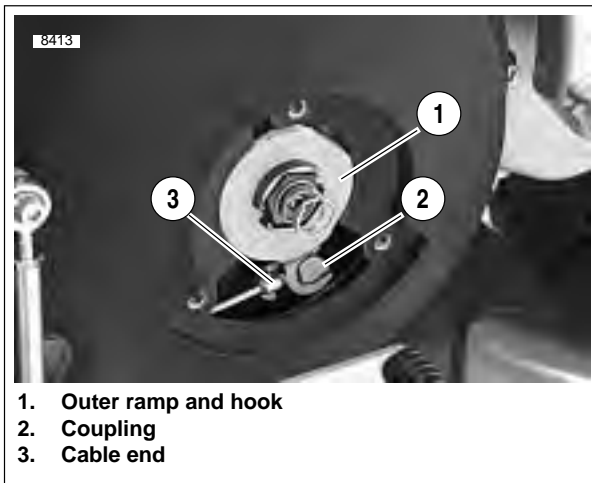

Figure 2-97. Clutch Release Mechanism
15. See Figure 2-97. Remove the outer ramp and hook (1) from the cable end (3) and coupling (2). Remove cable end from slot in coupling. See 6.3 CLUTCH RELEASE MECHANISM.
3. See Figure 2-97. Install cable end into slot in coupling. Install the outer ramp and hook (1) onto the cable end (3) and coupling (2) and place assembly back into the clutch inspection area in the primary cover. See 6.3 CLUTCH RELEASE MECHANISM.